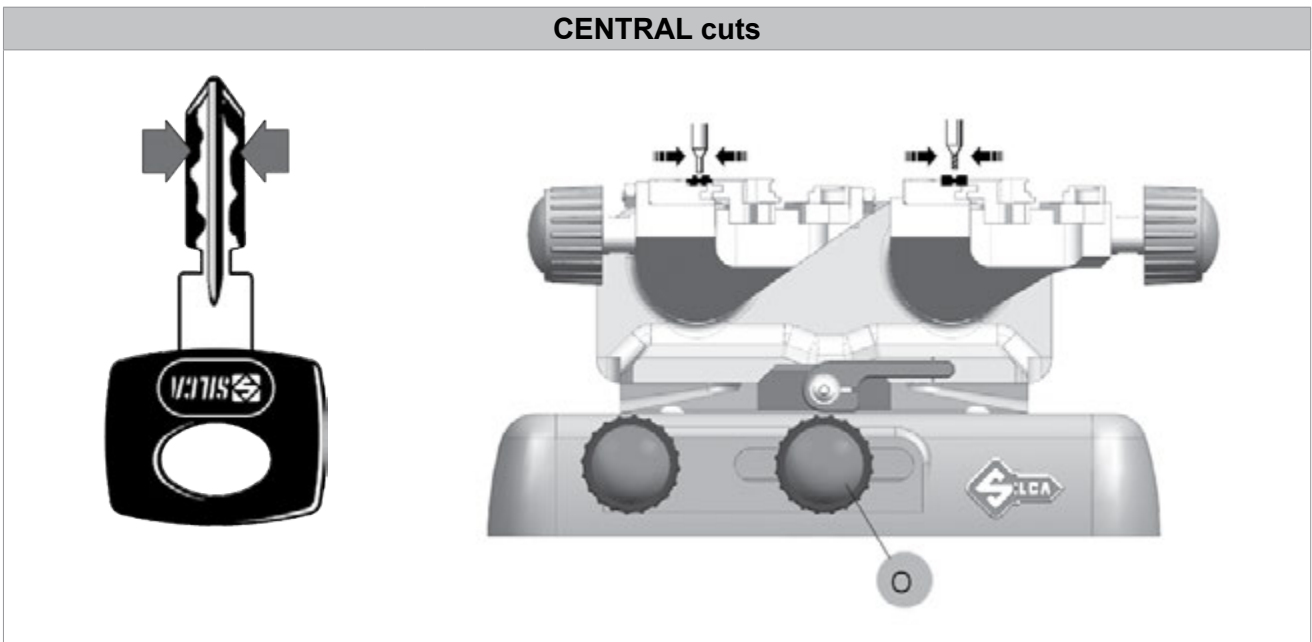
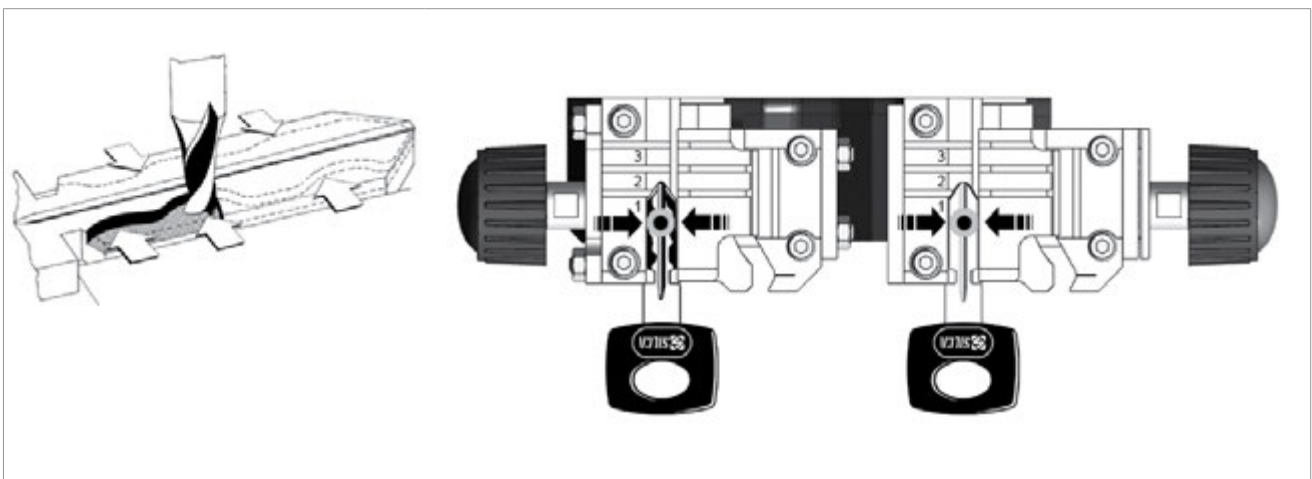
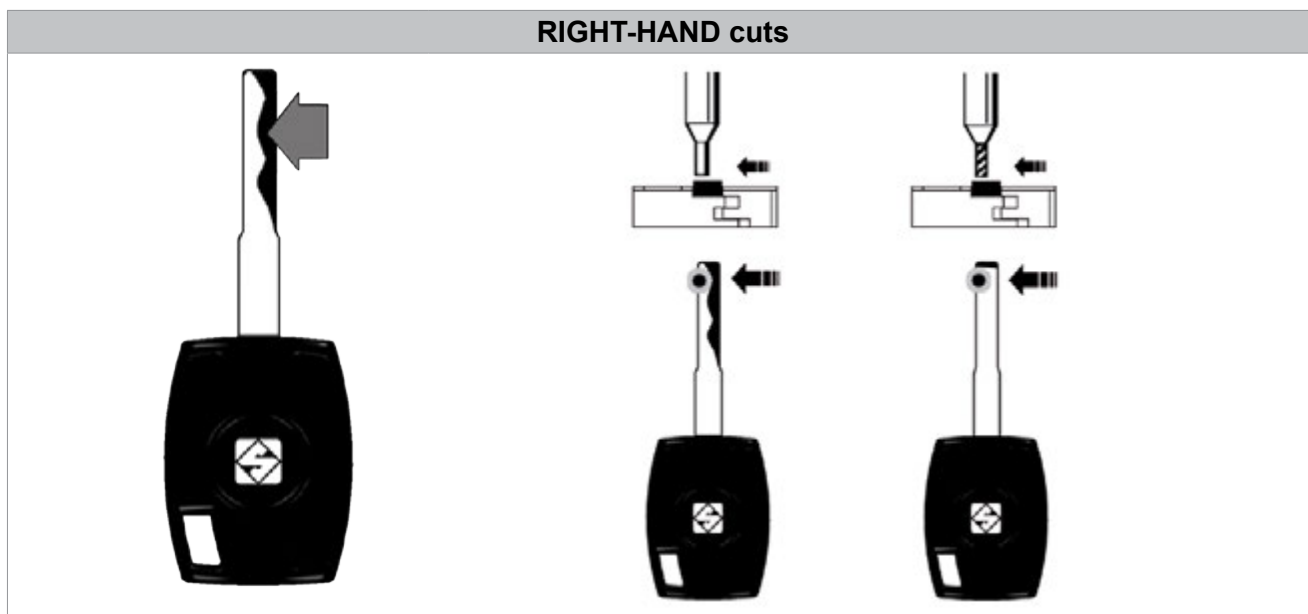
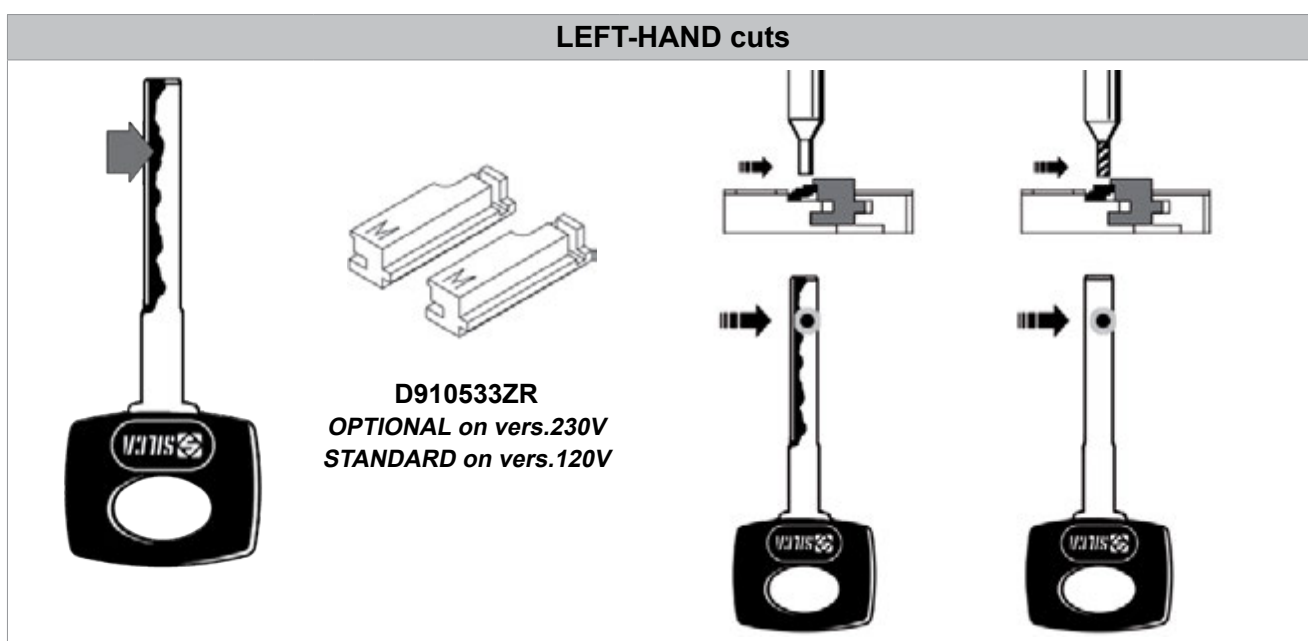

Fig. 23
Fig. 24
Fig. 25
Fig. 26
The MATRIX key-cutting machine comes with a spring system on the clamp carriage to control the range of movement, considerably facilitating the cutting of laser keys. The spring function for laser keys is activated by means of the knob (O) (Fig. 23) and causes pressure on the tool sides along the cutting track when making cuts; this method allows the operator to trace cuts manually without pressing crosswise with the lever (C). Fig. 24, Fig. 25 and Fig. 26 illustrate the three examples of use of the spring system:
With the motor power switch (Q) off, loosen the knob (O) slightly (Fig. 23).
Take the tools above the keys centred over the key stem (Fig. 24).
Take the tools above the keys to the left of the key stem (Fig. 25).
Take the tools above the keys to the right of the key stem (Fig. 26).